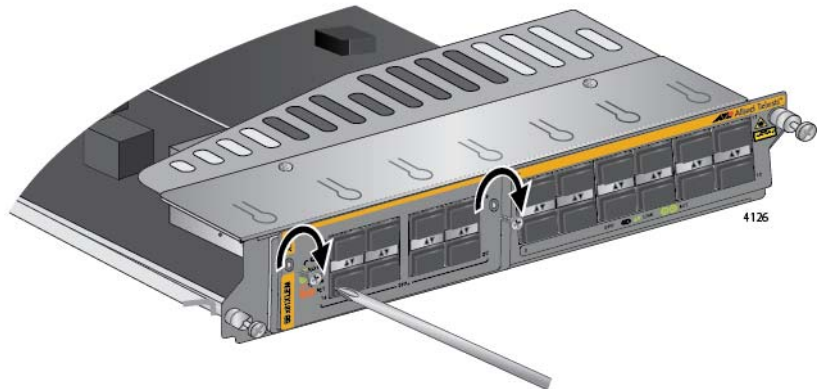

Figure 85. Securing the Expansion Module
10. With a Phillips-head screwdriver, install the two screws from step 4 to secure the expansion module to the line card. Refer to Figure 85.